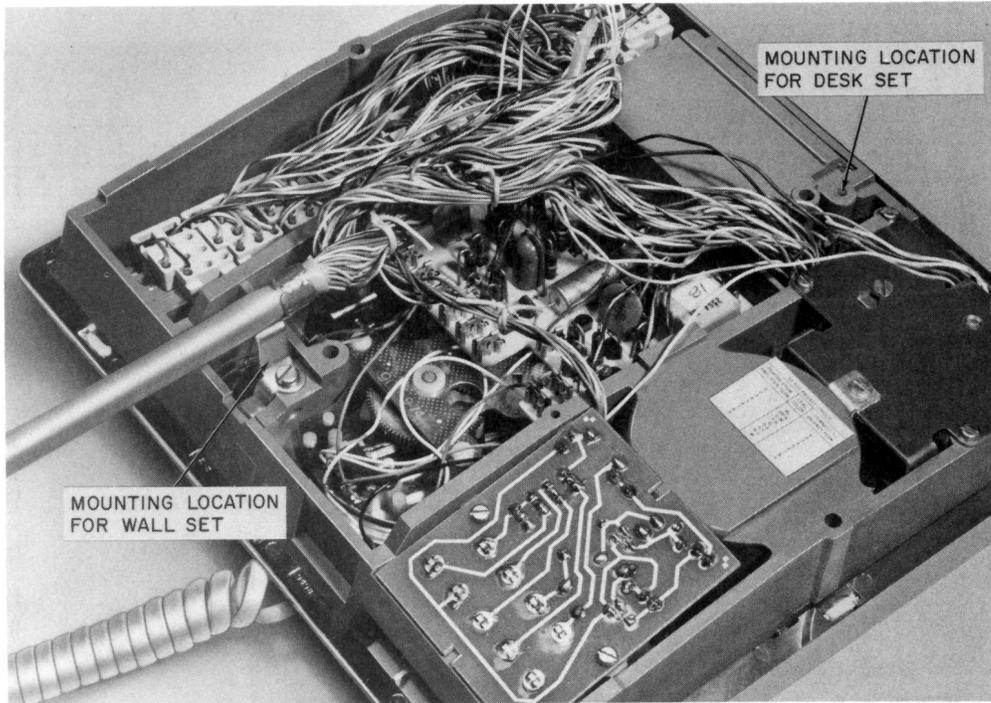
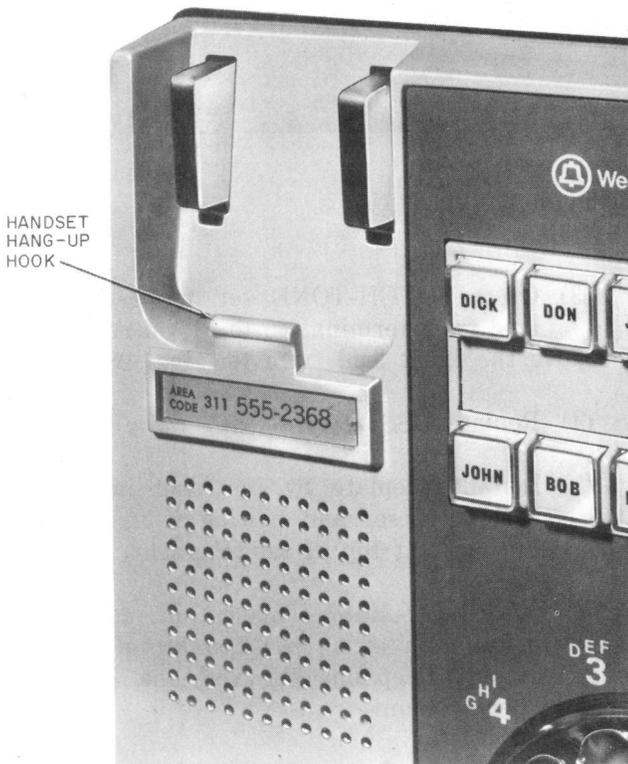

Fig. 8—Set Modification For Wall Mounting
Fig. 9—Handset Hook Attachment For Wall Set
(1) Loosen four screws and remove the lower housing.
(2) Remove screw holding mounting cord attachment bracket at rear of set.
(3) Refasten bracket using screw in the position shown in Fig. 8.
(4) Rotate the lower housing 180 degrees from the desk model position and fasten housing to base.
(5) If plastic designation card cover has been installed, remove cover using a KS-16750 releaser, then remove screw from recess and discard screw.
(6) Install plastic handset hook (Fig. 9) from the D-180658 kit of parts using longer screw also furnished with kit.
(7) Replace plastic designation card cover.